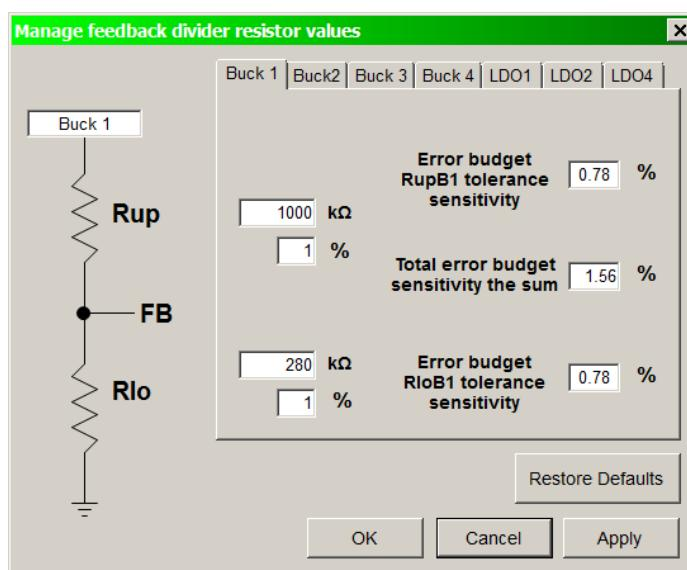

Figure 4. Manage Resistors Form
- The Manage Resistors form (Figure 4) is brought up by pressing the Change Resistor Divider Networks button on the LTC3676 form.
This button brings up the Manage Feedback Divider Resistor Values form (Figure 4), which allows for different feedback divider resistor values. Any changes made in this form will immediately be reflected in the appropriate voltage value boxes on the LTC3676 form. It is the user's responsibility to ensure that the values in this form are the same as the values of the actual resistors on the demo board.